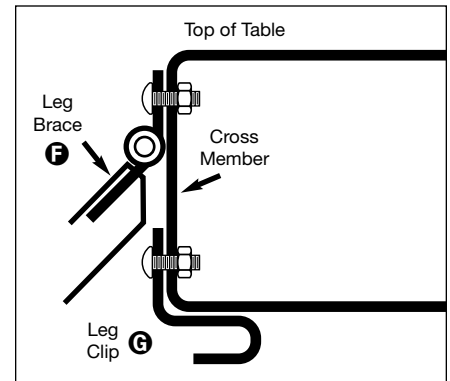
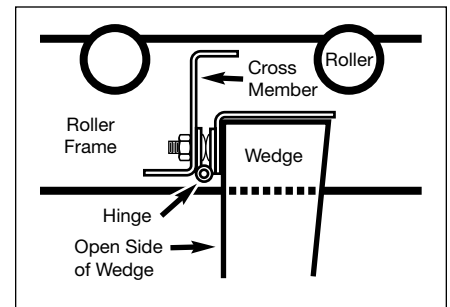
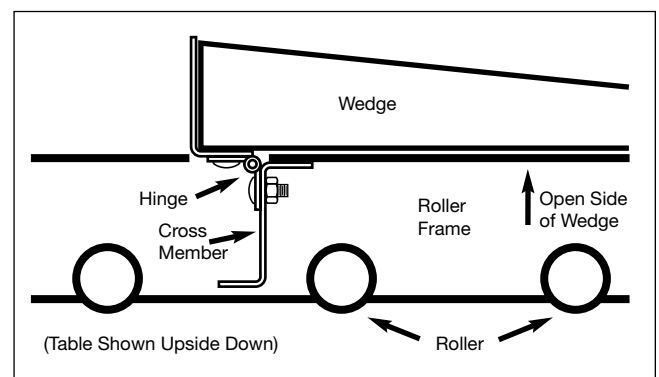

Figure 2
Figure 3
Figure 4
4. Place the roller frame **A/B** upside down on a level surface and mount the leg clips **G**. The clips mount in the top holes of the center cross-members as the frame is currently oriented (see Figure 2). This will put them on the bottom of the frame when the unit is in the upright position. Use (2) 10-24 x 1/2" button head bolts and (2) 10-24 keps nuts.
5. Attach loose leaf leg hinge **K** to inner leg wedge **G**. Orient so when the leg is in an upright position (as the leg would be during use) the unsecured 1/2 of the hinge hangs down. Flat side of hinge should be toward the wedge. Pin side of the hinge facing out, or away from wedge. Secure with (4) 10-24 x 1/2" button head bolts and (4) 10-24 keps nuts. Feed the bolts through the hinge first.
6. Fold the leg brace in half and lay the leg assembly onto the roller frame. Orient so the unsecured 1/2 of the hinge hangs down and in line with the holes in the roller frame cross-member. Secure the hinge to the roller frame with (4) 10-24 x 1/2" button head bolts and (4) 10-24 keps nuts. Figure 3 and Figure 4.
7. Tip the unit onto its side and swing the legs into their vertical position. Attach the unsecured ends of the leg braces to the center cross-member of the roller frame. **DO NOT ATTEMPT TO ATTACH THESE WITH THE FRAME UPSIDE DOWN!** The leg could slam into the closed position causing an injury. Secure with (2) 10-24 x 1/2" button head bolts and (2) 10-24 keps nuts. Figure 2.
8. Install the (4) adjustable glides **L** into the threaded bosses of the legs.